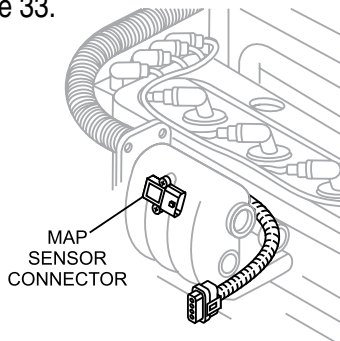

Figure 33. MAP Sensor Connector
1. Open hood and disconnect MAP sensor connector. See Figure 33.
- To correct MAP sensor error, remove jumper wire, reconnect MAP sensor connector (Figure 33) and restart engine. It may be necessary to restart and stop the engine five times in order to clear the error from the check engine warning lamp. Allow engine to run for 3 to 5 minutes.